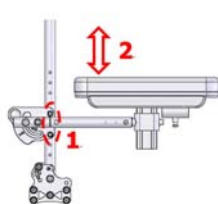

Figure 5-58
5.3.4.2.8 When adjusting the whole armrest assembly upwards or downwards, use the #4 Allen Key Wrench and the #10 box end Wrench to loosen the screw used to fixing the armrest bracket. (Figure 5-58)